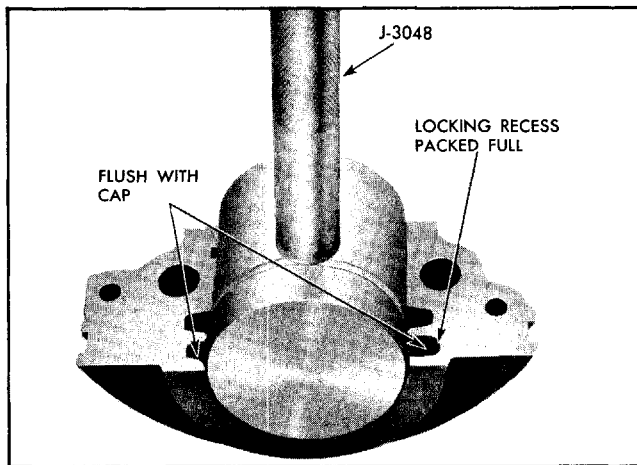

Fig. 6-29 Lower Seal Installed in Bearing Cap
10. Install a new seal in rear main bearing cap using Tool J-3048-A to pack seal tightly. Be sure to pack seal tightly into locking recess and trim flush with cap (Fig. 6-29).